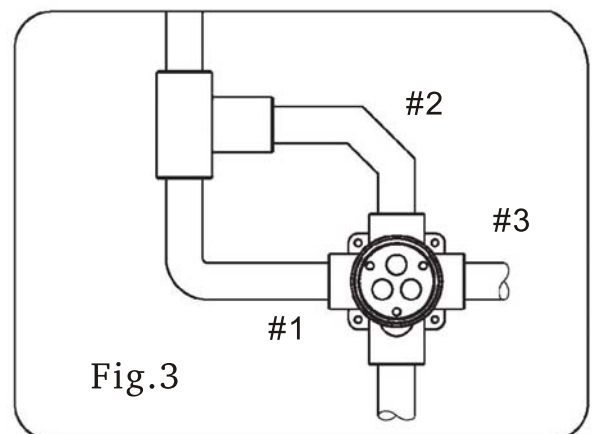

Fig.3
Damage to the shower system may result if the valve is used as a shut-off valve. (Fig.3)
2. Position the pins correctly as the figure 3 shows and match the body position holes and fit in securely.